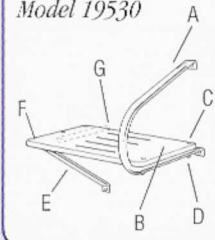

Figure 4
- 1b. After determining which side of the platform is most suitable for the handrail (A), mount it to the platform (B) using 2 bolts (C) 03.085 through holes in platform. Secure with 2 locknuts (D) 03.221 as illustrated.
2. Mount strut (E) 50.745 by inserting bolt (F) 03.075 through hole and secure with locknut (D) 03.221 as illustrated.
3. Mount strut (G) 50.746 by inserting 2 bolts (C) 03.085 through holes and secure with 1 locknut (D) 03.221.
4. Choose most suitable side of transom for mounting platform. Turn motor unit as far as possible to that side. Make a line on the transom indicating motor unit's full extension to that side. (Fig 4.)